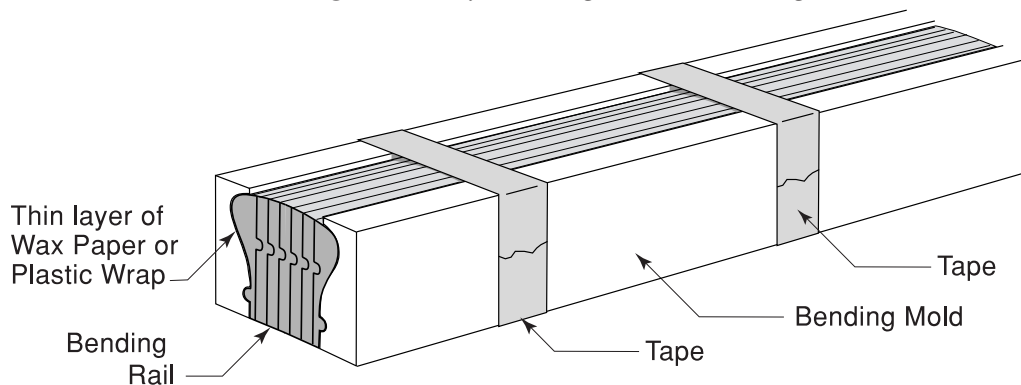

Fig. 6-3D
6. Lay the other half of the bending mold on the bending rail and place tape around the entire form in three or four places to ensure the rail firmness during the bending process. Please note Fig. 6-3D here. You are now ready to bend the rail.